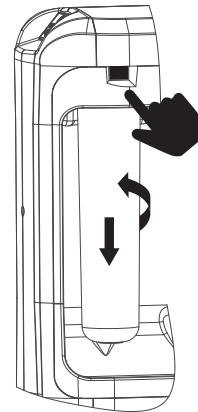

Fig. 10b
- To remove a cartridge, press the lock button as far as it will go and hold it while turning the cartridge counter clockwise, as shown in Fig. 10b, and remove it.
- Remove the old cartridges. For this, press the lock button as far as it will go and hold it while turning the cartridge counter clockwise, as shown in Fig. 10b.